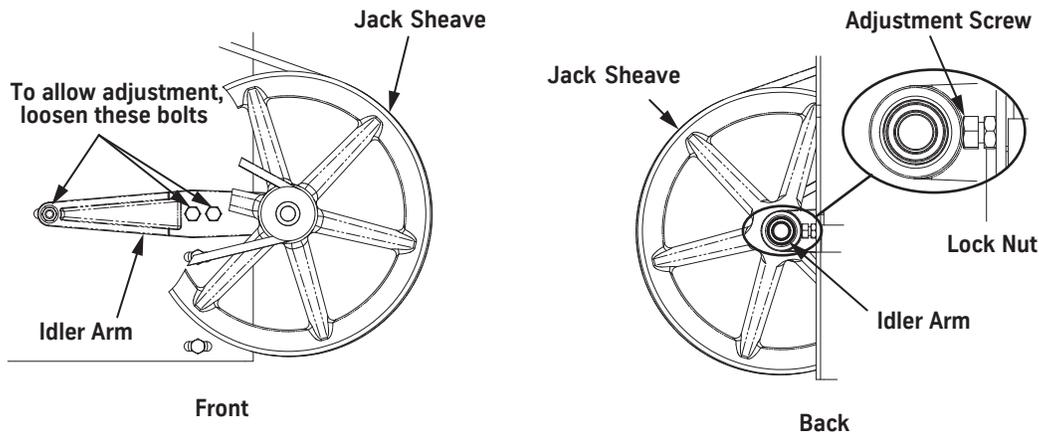

Figure 2 - V Belt Adjustment
- a. Loosen the three bolts on the idler arm and the lock nut on the adjustment screw. See Figure 2 on page 10.